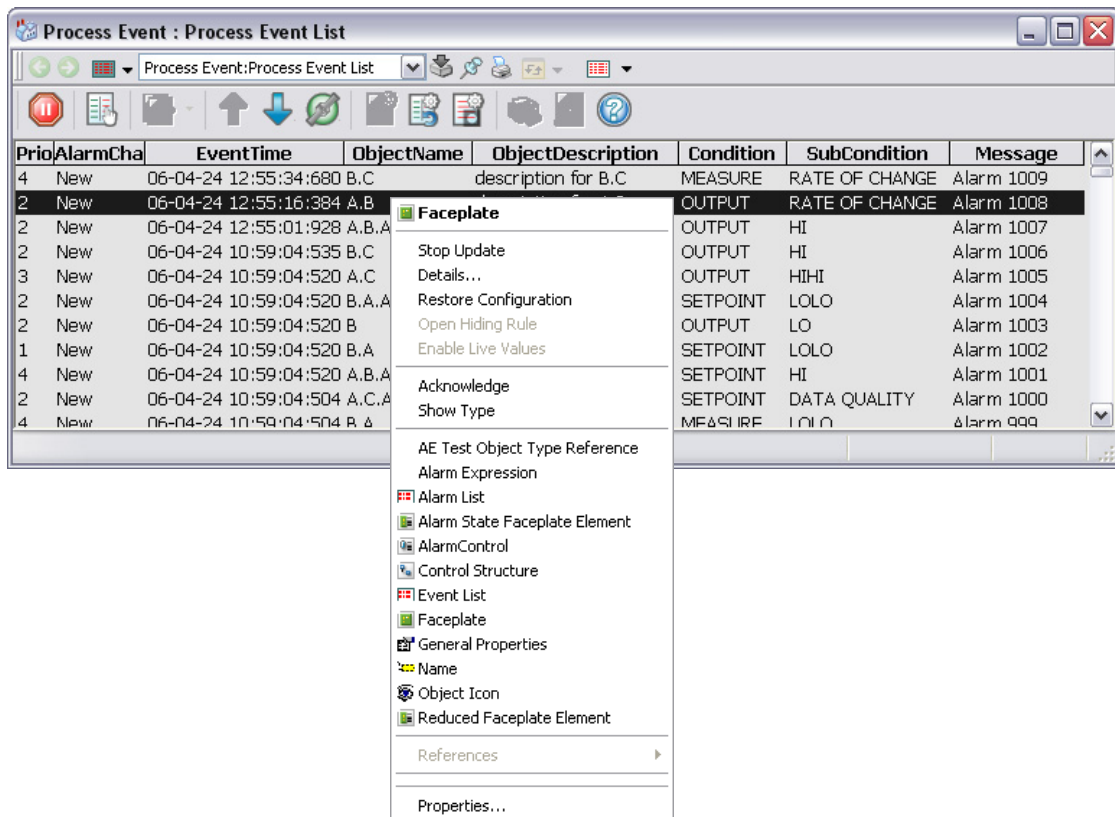

Figure 97. Context Menu for a Process Event
**Context Menu.** Right-click on an event to bring up the context menu where you can perform some actions on this event line, see Figure 97.